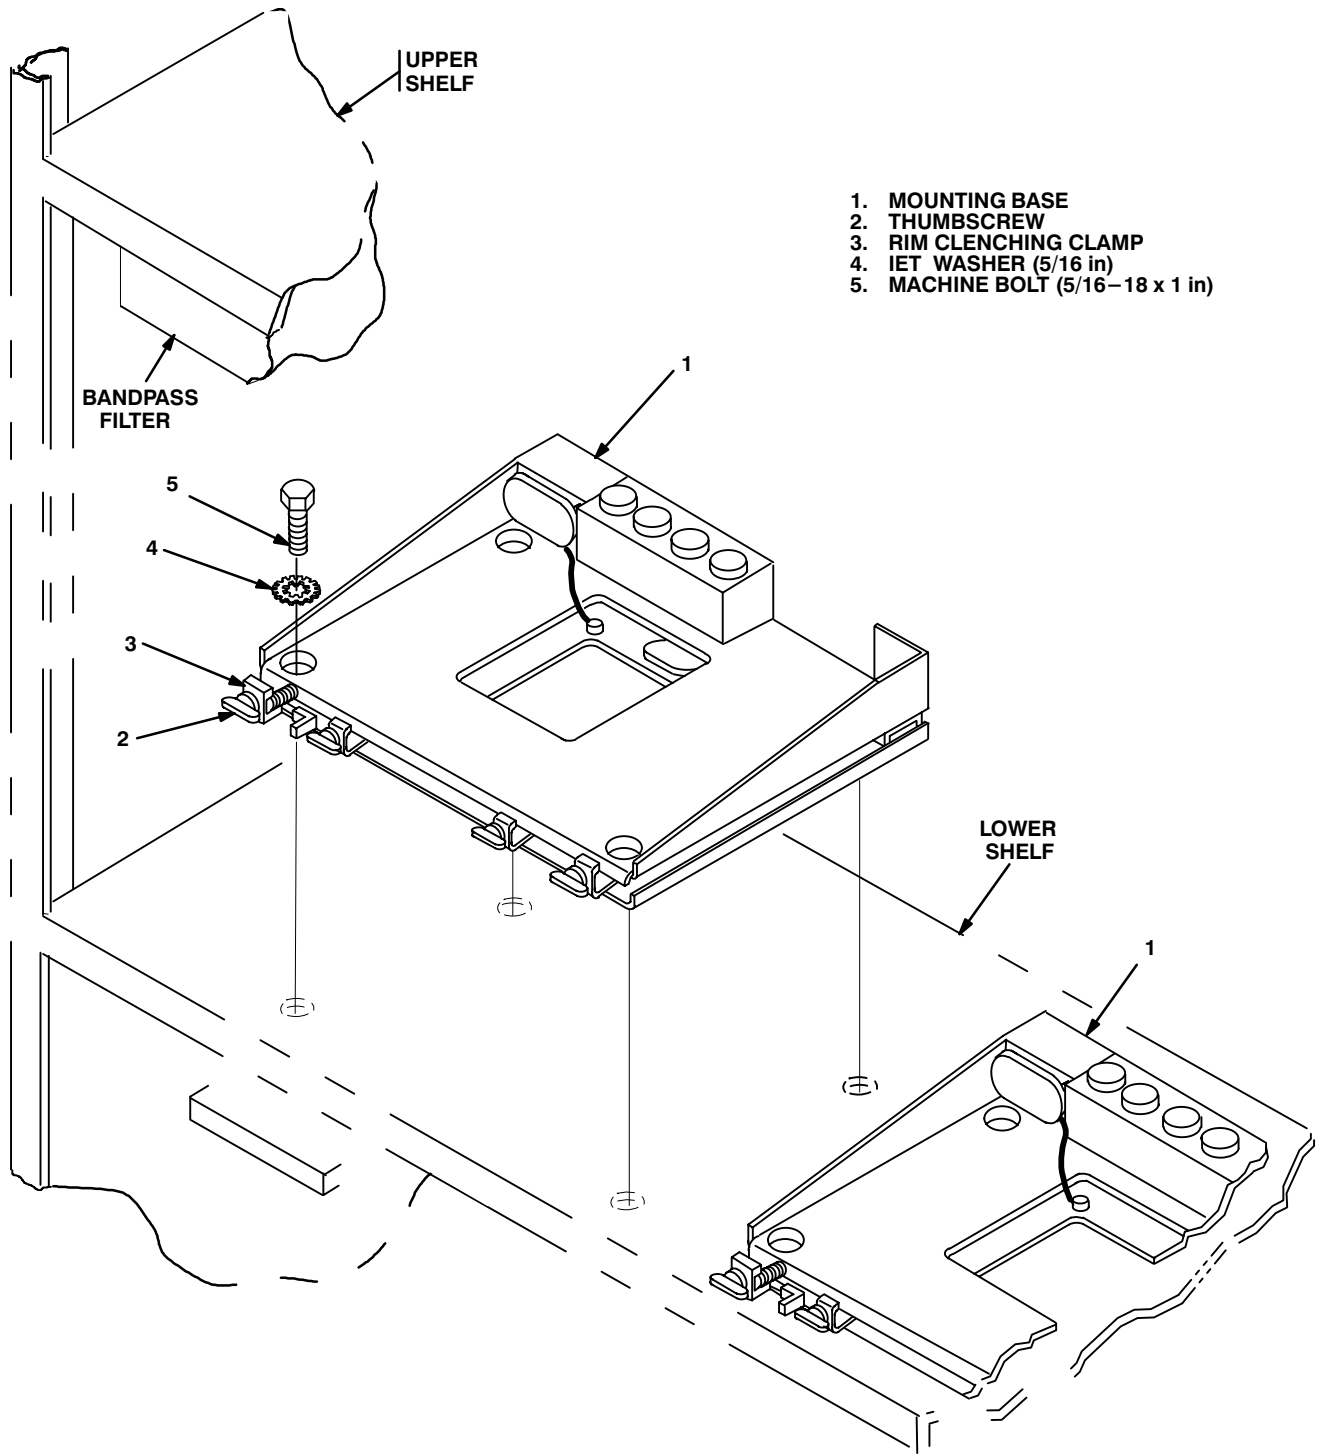

Figure 5-4. Mounting Base Installation: Equipment Rack
5.2 Installation of Mounting Base, Electrical Equipment MT-6352/VRC (mounting base). Remove and retain attaching bag of 5/16 in mounting hardware for installation. To insure good electrical grounding, any rust, corrosion or paint around mounting holes in equipment rack shelf should be removed before installing mounting bases. See Figure 5-4 and perform steps b thru g to install both mounting bases.